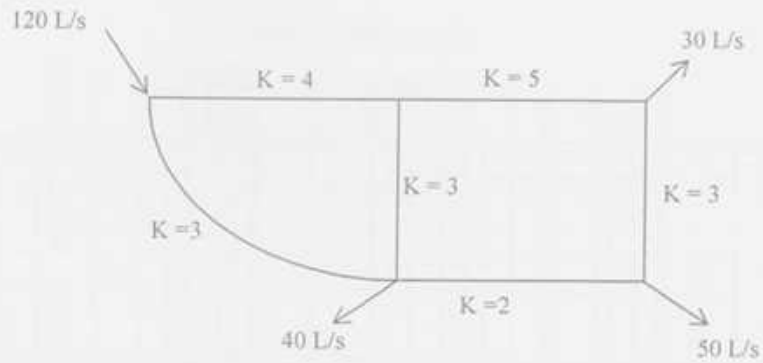

Figure 9
13. Use the *AISC-ASD* criteria to calculate the allowable force F_0 on the frame shown in Fig. 9, considering compression of columns ab and bc [Given: $E = 4 \times 10^3 \text{ ksi}$, $f_y = 4 \text{ ksi}$].
7. (a) A pipeline 50 m long is connected to a water tank at one end and discharges freely into the atmosphere at the other end. For the first 20 m of its length from the tank, the pipe is 20 cm in diameter and its diameter suddenly enlarges to 45 cm. The height of water level in the tank is 12 m above the center of the pipe. Considering all losses of head that occurs, determine the rate of flow. Assume $f = 0.022$ for both the pipes. (8)
(b) If the flows into and out of a two-loop pipe system are as shown in figure 9, determine flow in each pipe. The k -values for each pipe are given in figure 9. Use Hardy Cross method. (17)